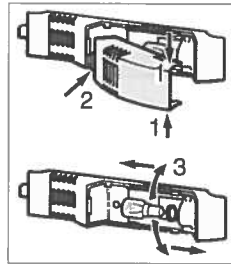

Fig. 8
- ▶ Take hold of the light cover at the top and bottom *Fig. 8 (1)*.
- ▶ Unclip light cover *Fig. 8 (2)* at the back and unhook.
- ▶ Replace the light bulb *Fig. 8 (3)*.